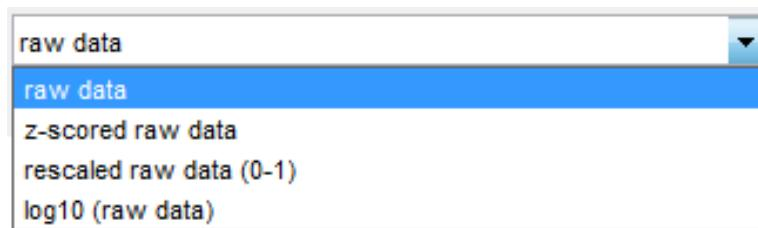

Figure 3-4. Pull-down menu for selecting among the data-scaling display options.
- There are four options for scaling the plotted time-series data. These are accessed through a pull-down menu, shown enlarged in Figure 3-4, which you will find in the upper right corner of the *Truncate Time series* GUI. The menu items are:
- Save & Close, Close. To implement the truncation operations you have specified in *Truncate Time series*, click on the *Save & Close* button near the lower-left corner of the GUI (see Figure 3-4). To exit from the GUI without implementing the truncations, click on the *Close* button instead.